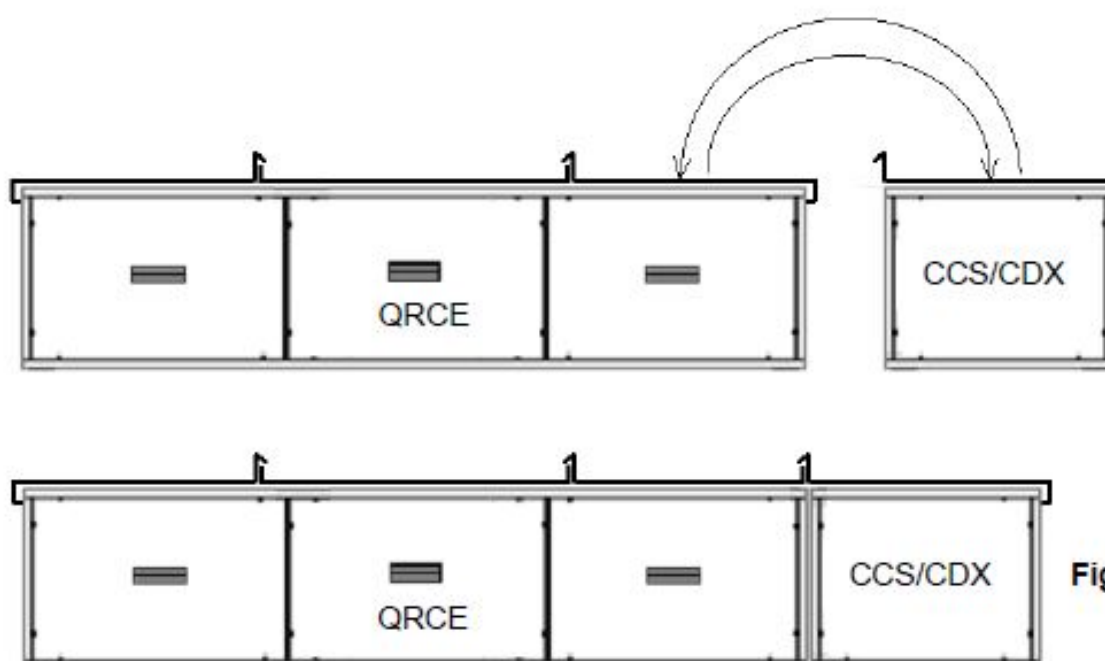

Fig. 9a
- For external sections CCS/CDX, both horizontal and vertical versions, it is supplied a roof cover which, before coupling unit and section according to the instructions of next 4.5, shall be interchanged with the unit roof element placed on the coupling side (fig. 9a).